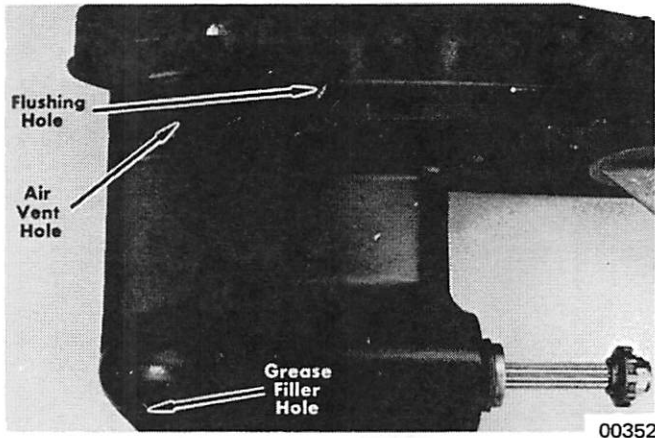

Figure 1. Filler Hole and Vent Screw
1. Drain Super-Duty Gear Lubricant from gear housing by removing filler hole screw and vent screw. (Figure 1) Do not lose washers. Replace washers and screws after draining.